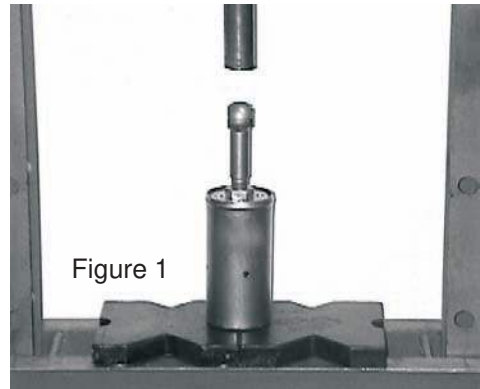

Figure 1
- To disassemble your shock with a hydraulic press, make a fixture to support the shock body as shown in figure 1. You must leave about 2" of space between the end of the ram and the top of the mount (see figure 1). Press straight down on the mount with the hydraulic ram, it only needs to be compressed about 1/4" to expose the wire ring. Remove the wire ring with a pick (see figure 2) and slowly release the hydraulic pressure. Separate the damper from the shock body and spring. You can also disassemble the shock using Progressive Suspension tool #32-5507. Follow the instructions enclosed with the tool.